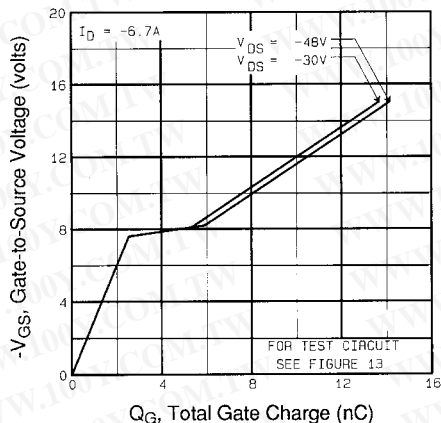

Fig 6. Typical Gate Charge Vs. Gate-to-Source Voltage
| Q_{gd} | Gate-to-Drain ("Miller") Charge | — | — | 5.1 | | $V_{GS}=-10V$ See Fig. 6 and 13 ④ |